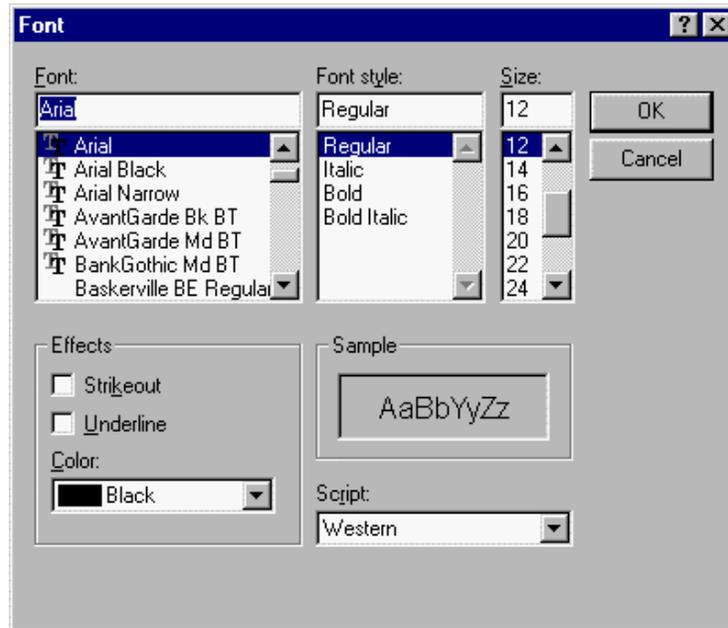

Figure 25. Font Dialog Box
1. Select **Results Font** from the **Tools** menu. The Font dialog box is displayed (Figure 25).